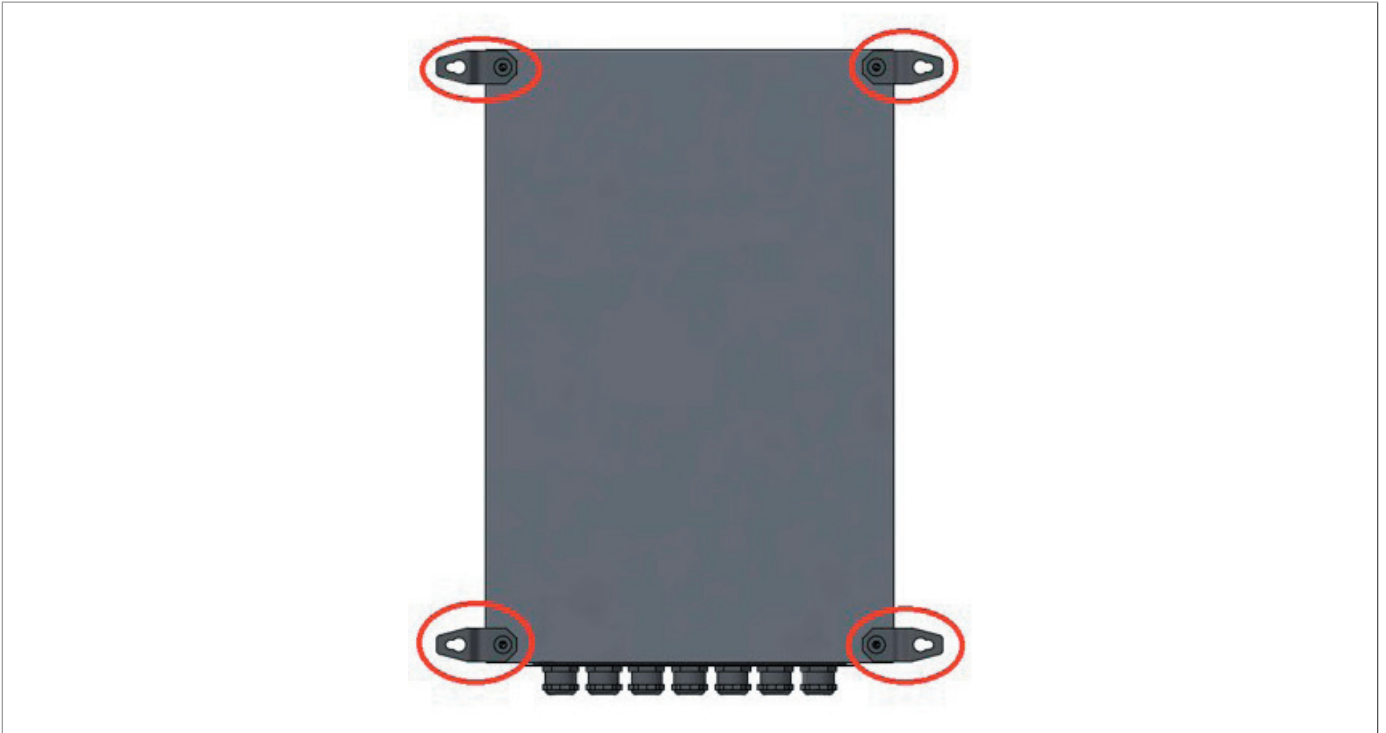

Fig. 7.41. Field display installation
- Field display (IM), if installed: touch screen graphic display installed in a safe area. The module must be fixed to the wall using the 4 brackets (Fig.7.41).